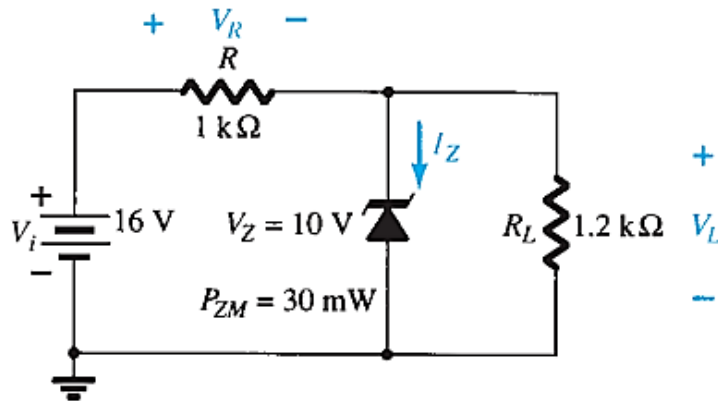

FIG. 2.115
- For the Zener diode network of Fig. 2.115, determine V_L , V_R , I_Z , and P_Z .
Determining V for the regulator of Fig. 2.115.
Resulting operating point for the network of Fig. 2.115.
Network of Fig. 2.115 in the “on” state.